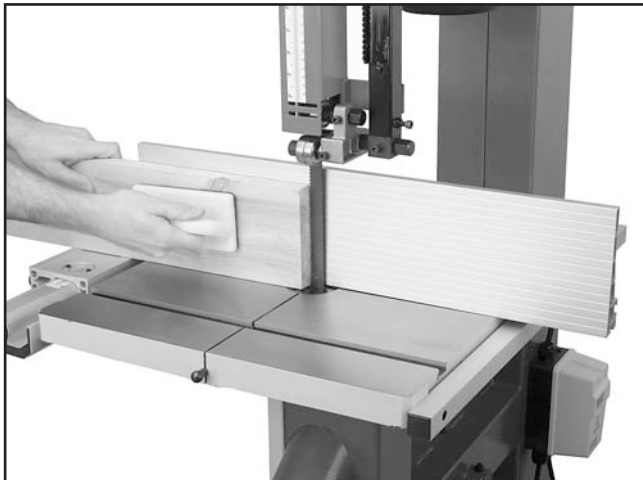

Figure 34. Typical resawing operation.
"Resawing" (**Figure 34**) means cutting the workpiece into two or more thinner workpieces.
6. Using push paddles and a push stick, maintain workpiece pressure against the fence and table, and slowly feed the workpiece into the moving blade until the blade is completely through the workpiece (see **Figure 34**).